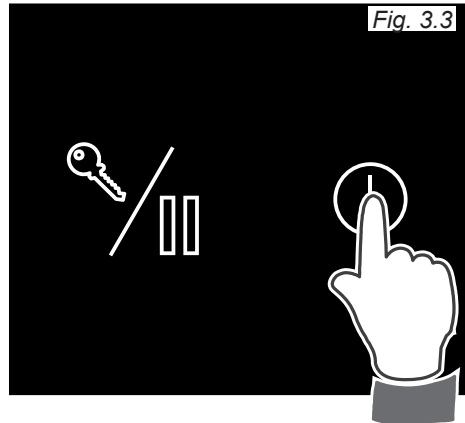

Fig. 3.3
- Touch the key ① (fig. 3.3).
- The cooktop may be switched Off at any time by pressing the key ① (fig. 3.3). If any cooking zones are turned On, they will be turned Off.